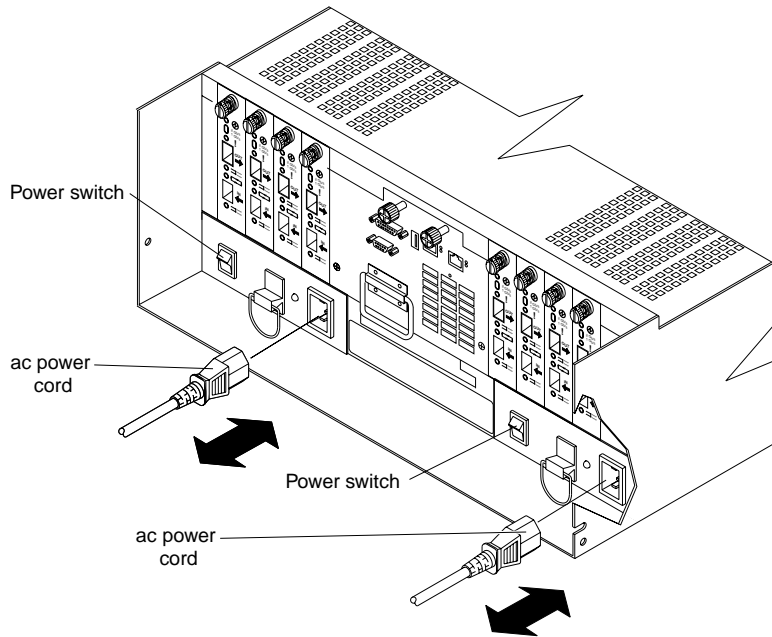

Figure 22. Connecting the power cords and power switch locations
- b. Turn on the power-supply switches on the back of the FAStT700 Storage Server (see Figure 22). You must turn on both power-supply switches to take advantage of the redundant power supplies.
- b. Turn off power to the storage server *before* you turn off power to the drive enclosures. Turn off both power supply switches on the back of the storage server. See Figure 22 on page 16.